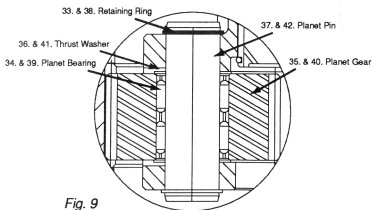

Fig. 9
6. Lubricate spline on intermediate gear (23), seat retaining ring (24) in groove between spline and gear. Stand intermediate gear on gear end, lay retaining ring (24) on splined end, slide small planet carrier assembly spline onto splined end of intermediate gear (23). With appropriate tool, seat retaining ring (24) into groove at end of intermediate gear (23).
7. Lubricate planet bearings (39) and press into planet gear (40). (Fig. 9)
8. Lubricate planet pin (42) and insert into planet pin hole in planet carrier (19) from splined side of carrier.
9. Lubricate thrust washers (41), place one washer on each side of planet gear (40). Place planet gear and thrust washer in planet carrier (19). (Fig. 9) Drive planet pin (42) through thrust washers and planet gear, into opposite planet pin hole in carrier housing. (Fig. 5 & 9)
10. Secure planet pin (42) with retaining rings (38) on each end of planet pin. (Fig. 9)
12. Using an appropriate tool, press bearing cups (10) and (14) into the housing.
24. Remove retaining rings (33) from ends of planet pins (37). (Fig. 9)
25. Support small planet carrier (25) spline side down and drive planet pins (37) out of planet carrier (25), from input side of carrier. (Fig. 9 & 5)
26. Remove small planet gears (35) and thrust washers (36) from small planet carrier (25). (Fig. 9)
27. Remove planet bearings (34) from small planet gears (35).
28. Remove retaining ring (24) from intermediate gear (23).
29. Remove intermediate gear (23) from small planet carrier (25).
30. Examine brass thrust plugs (22) in end of intermediate gear (23). If wear is apparent, remove by inserting a "1/4" self tapping screw and jacking the plug out of the gear.
31. Remove retaining rings (38) from ends of planet pins (42). (Fig. 9)
32. Support planet carrier (19) spline side down and drive planet pins (42) out of planet carrier (19). (Fig. 9 & 5)
33. Remove planet gears (40) and thrust washers (41) from planet carrier (19). (Fig. 9)
34. Remove planet bearings (39) from planet gears (40).